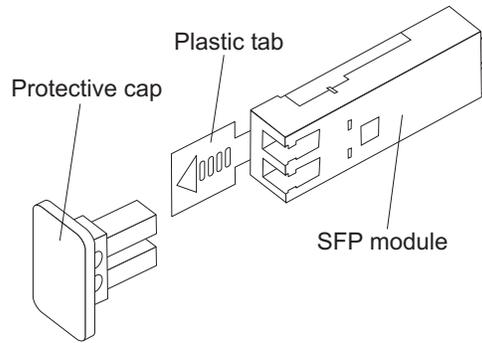

Figure 24. Installing an SFP module into the host port
4. Insert the SFP module into the host port until it clicks into place. See Figure 24 on page 47.